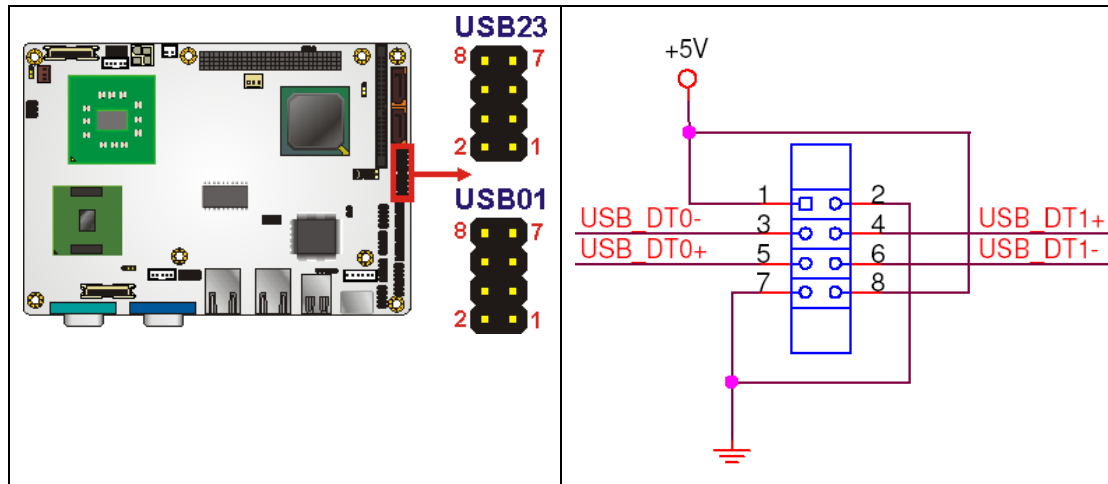

Figure 3-23: USB Connector Pinout Locations
- CN Location:** See Figure 3-23